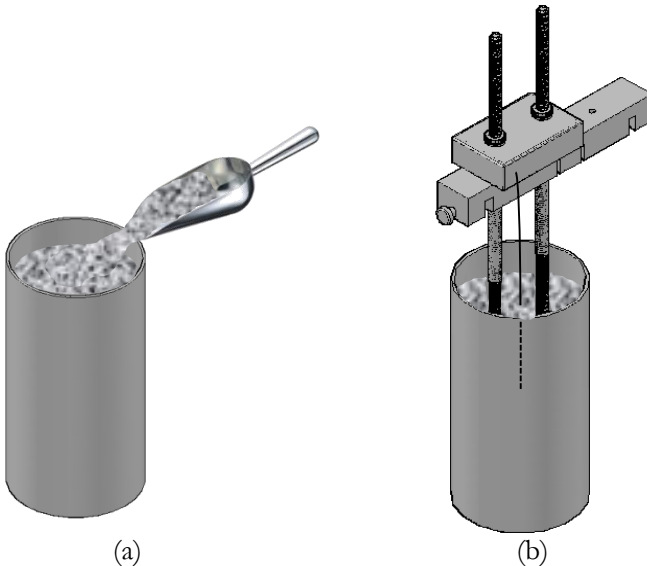

Figure 19. A cylinder mold with concrete and inserted rods
Step 2: Fill the cylinder with fresh concrete (Fig. 19(a)); if you are using the original electrode spacer, leave at least 20 mm empty space at the top of the mold, so that spacer can easily fit in.
Step 3: Carefully insert the spacer assembly into concrete. Make sure that the temperature sensor is properly inserted together with the probe ((Fig. 19(b)). You may want to adjust the position of the temperature sensor. Tap on the side of the mold to remove any air gaps between the rods and the concrete.